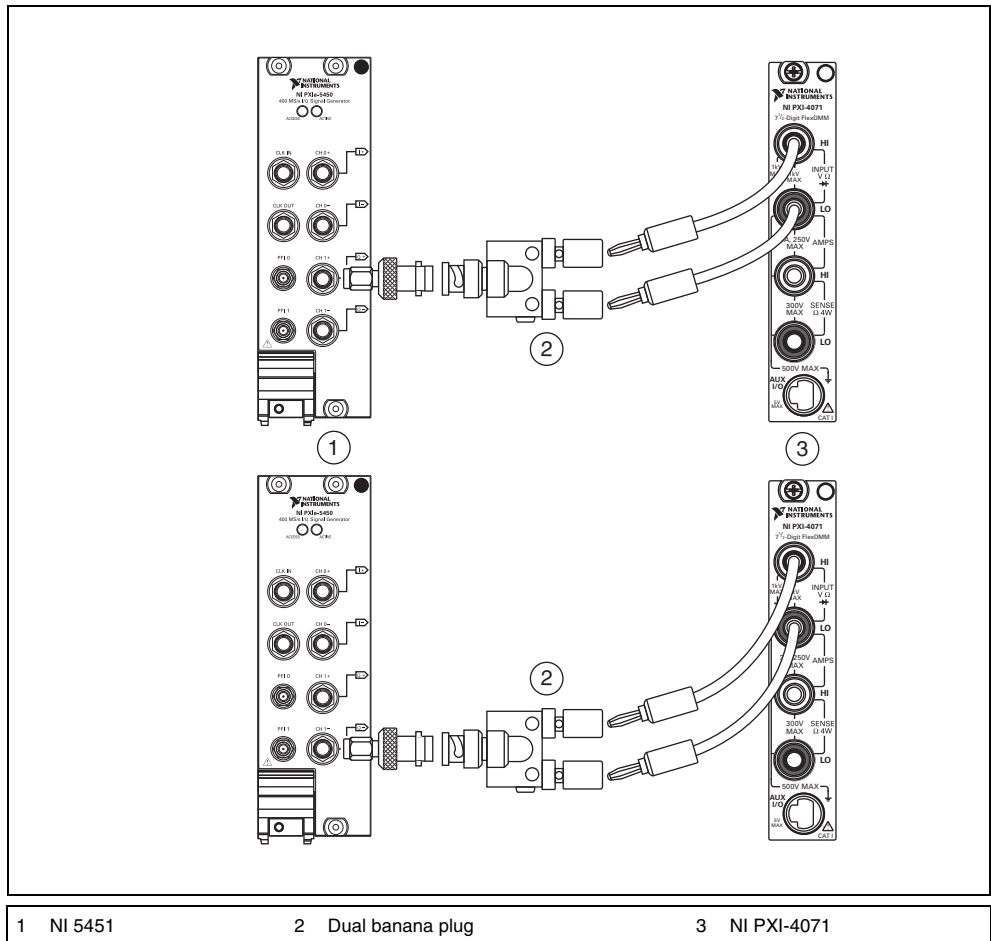

Figure 6. DC Voltage Common Mode Offset Accuracy Verification Connections (CH 1)
11. Repeat steps 1 through 10 for CH 1. The connections are shown in Figure 6.
10. Repeat steps 1 through 9 for CH 1. The connections are shown in Figure 6.